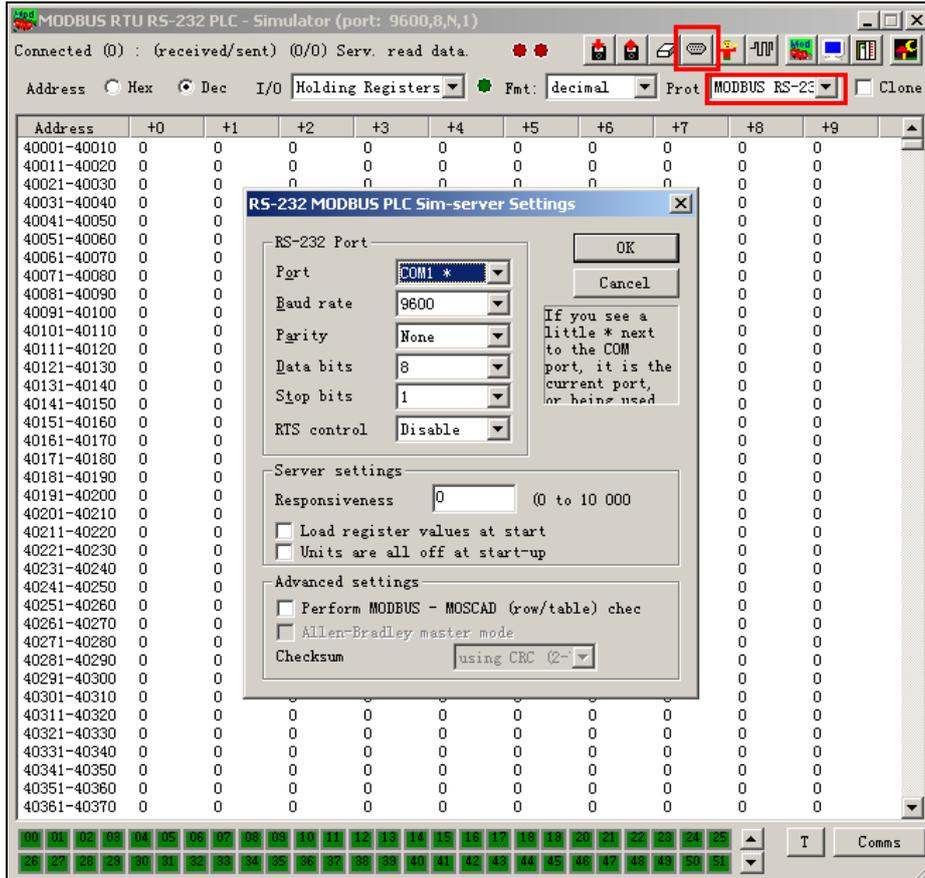

Figure 2-15 Modbus slave connect with serial port
Step 3: Run the mod_RSsim.exe tool, and set correct values for **Port**, **Baud rate**, **Data bits**, **Stop bits**, and **Parity**, as shown in Figure 2-15.